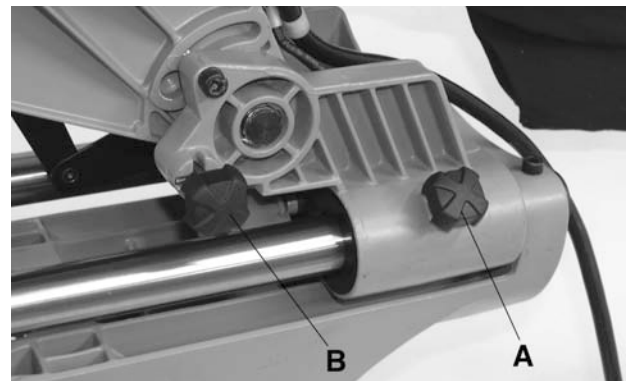

Figure 18
When cutting a piece of wood it is not always necessary to use the slide mechanism. In these cases make sure that the slide lock knob (A) Fig.18 is locked to prevent the saw arm from sliding. A crosscut is made by cutting across the grain of the workpiece. A 90° crosscut is made with the miter and the bevel angles are set at 0°.
1. Pull and turn the saw head release knob (B) Fig.18 and lift the saw head to its full height.
### When cutting wide workpieces, you should use the sliding action, unlock the slide lock knob (A) Fig.18.
A dual compound cut involves using a miter angle and a bevel angle at the same time. It is used in making picture frames, to cut mouldings, making boxes with sloping sides and for roof framing. Always make a test cut on a piece of scrap wood before cutting into good material. Use the slide action when cutting wide workpieces, unlock slide lock knob (A) Fig.18.